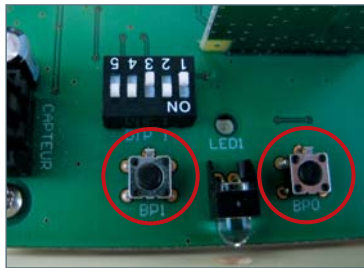

fig.2 - Sun™ & Confort™
- identify push button 1 (BP1) on the central unit PCB (fig. 2)
- identify push buttons BP1 and BPO (fig. 2)
- identify push button BPO on the Confort™ PCB (fig.2)
- wait for a minute and press the BPO of your central unit (fig.2)